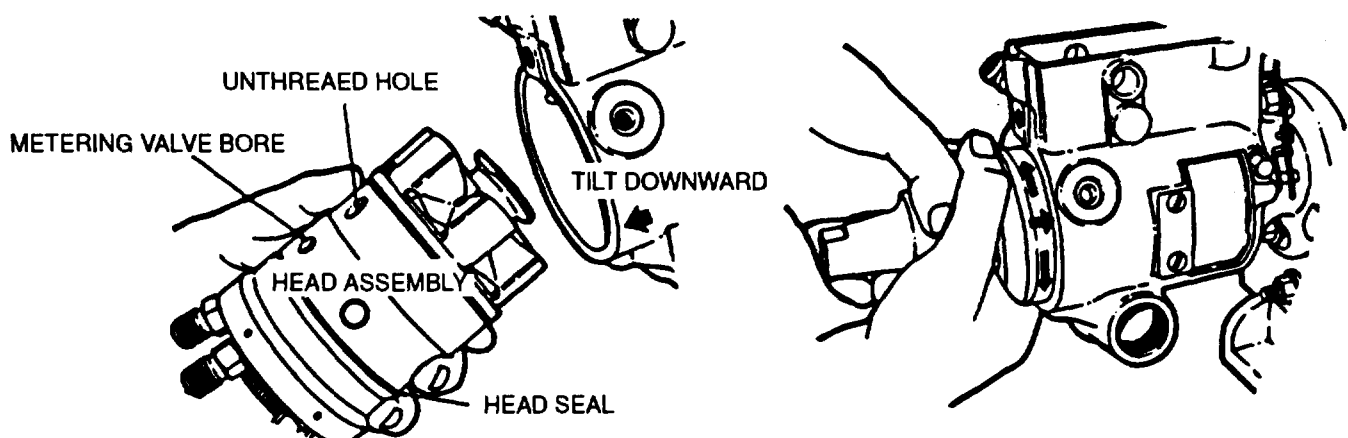

FIGURE 3-78. Inserting Hydraulic Head (Typical)
- ao. Grasp hydraulic head firmly in both hands and insert it into housing bore with a slight rotary motion. Do not force. If assembly should jam during insertion, withdraw and start over, refer to FIGURE 3-78.